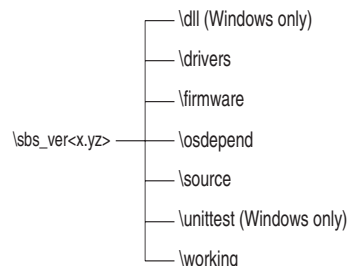

Figure 3.2.3: User Directory Structure
3. Create the directory structure shown in Figure 3.2.3 using the ftp `mkdir` utility: